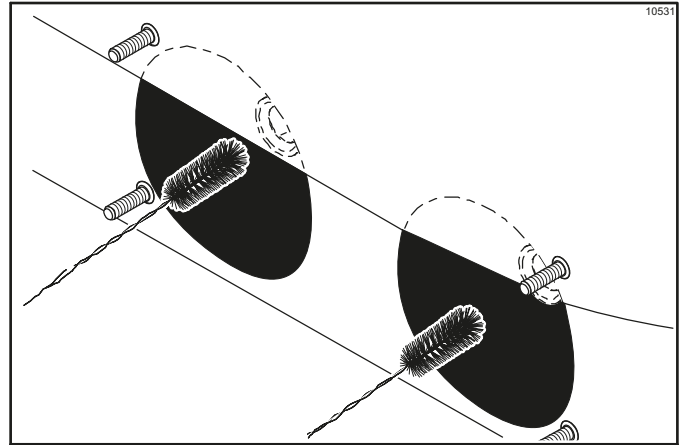

Figure 6-41
3. Return to the freezer with a small amount of cleaning solution. Using the black brush, clean the rear shell bearing at the back of each freezing cylinder. (See Figure 6-41.)